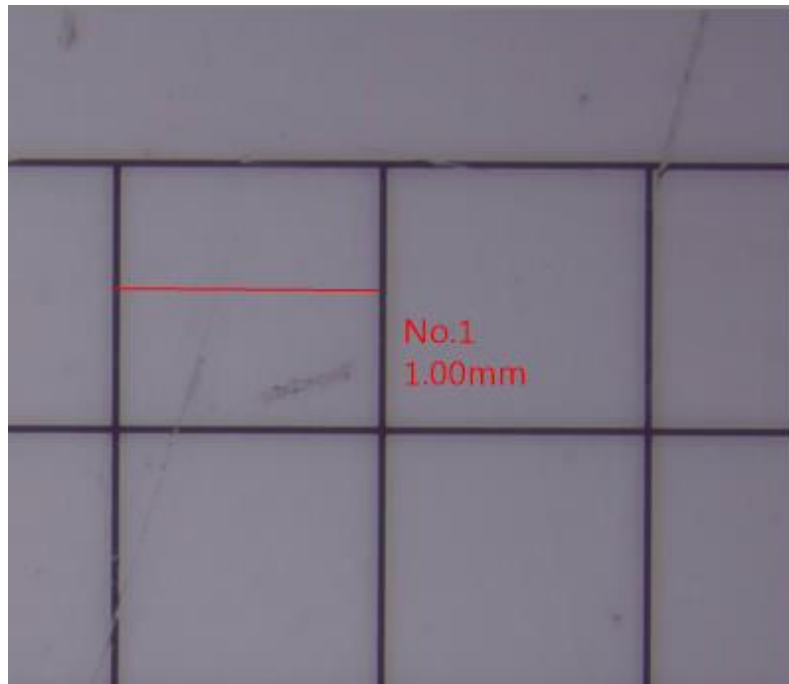

Fig. 5-5 Line Measurement
- (5) Line : To simply measure a line who can apply  tool. ◦ User wants to measure circuit width of PCB who can choose  tool and measure length as L=1.00mm (L : Length) , see Fig. 5-5 shown.